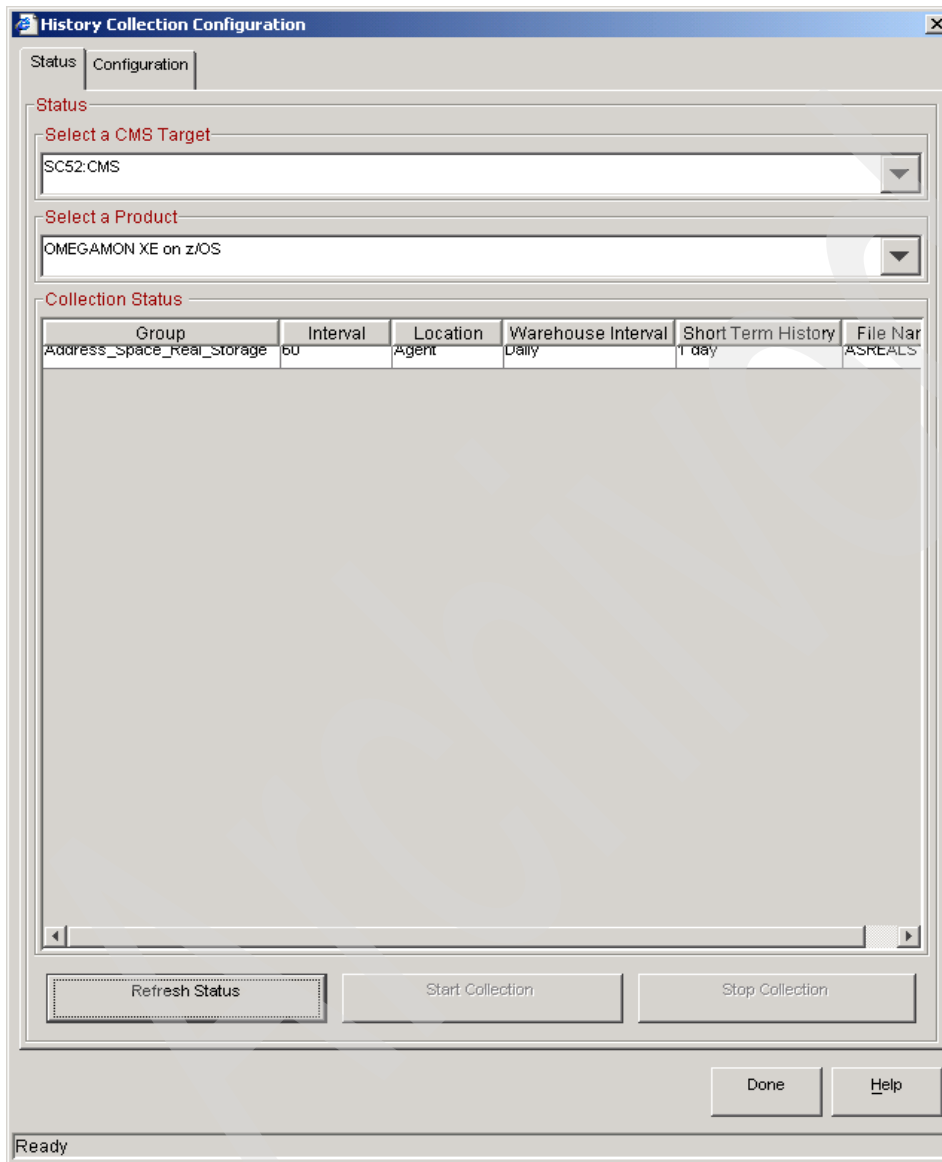

Figure 6-27 Historical data collection - starting collection
- Click **Refresh Status**. You can see the collection status for the newly added Address\_Space\_Real\_Storage group as shown in Figure 6-27 on page 225.